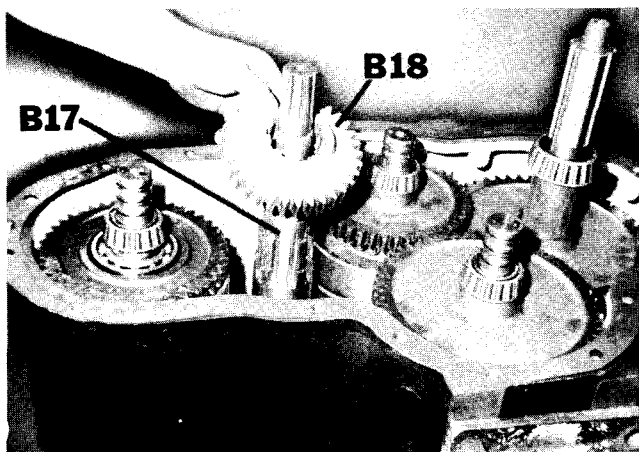

Figure 11
20. Slide gear (B-18) from hollow shaft (B-17) (Figure 11).